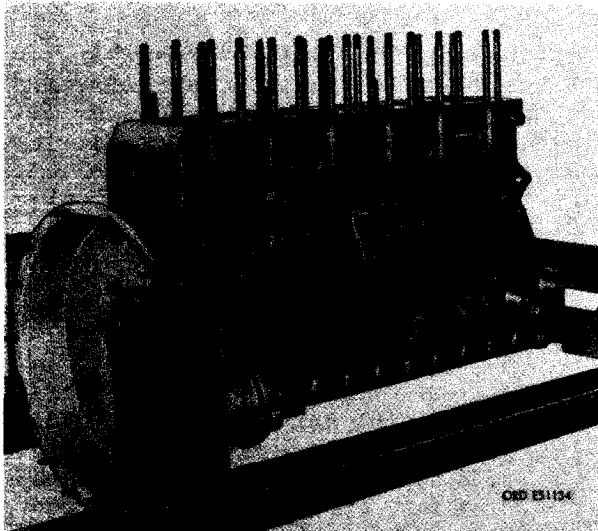
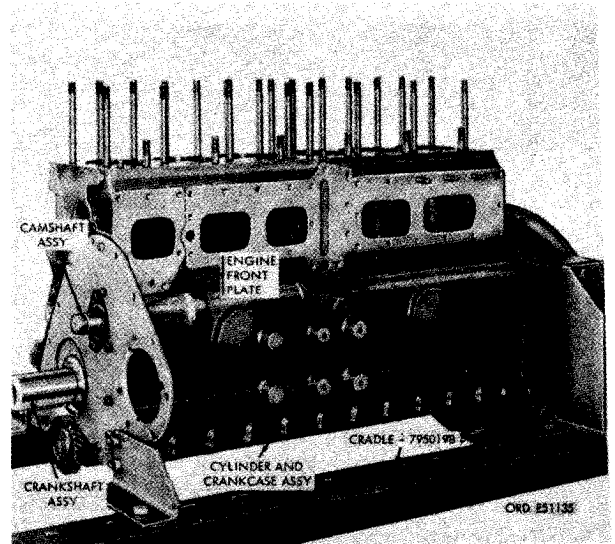

FIGURE 293. STRIPPED ENGINE BEFORE REMOVAL FROM ENGINE OVERHAUL STAND - 3/4 RIGHT REAR VIEW.
FIGURE 294. STRIPPED ENGINE BEFORE REMOVAL FROM ENGINE OVERHAUL STAND - 3/4 LEFT FRONT VIEW.
- (4) Figure 293 shows the stripped engine on the overhaul stand.
a. General. The engine must be supported by sling - 8715107 and the sling connected to a hoist before removing the engine mounting brackets. Refer to figure 294 for a front view of the stripped engine.
**a. General.** The flywheel housing (fig. 293), crankshaft assembly (fig. 294), camshaft assembly (fig. 294), and engine front plate (fig. 294) cannot be removed from the cylinder and crankcase assembly until engine is removed from engine overhaul stand - 7950189 and cradle - 7950198.